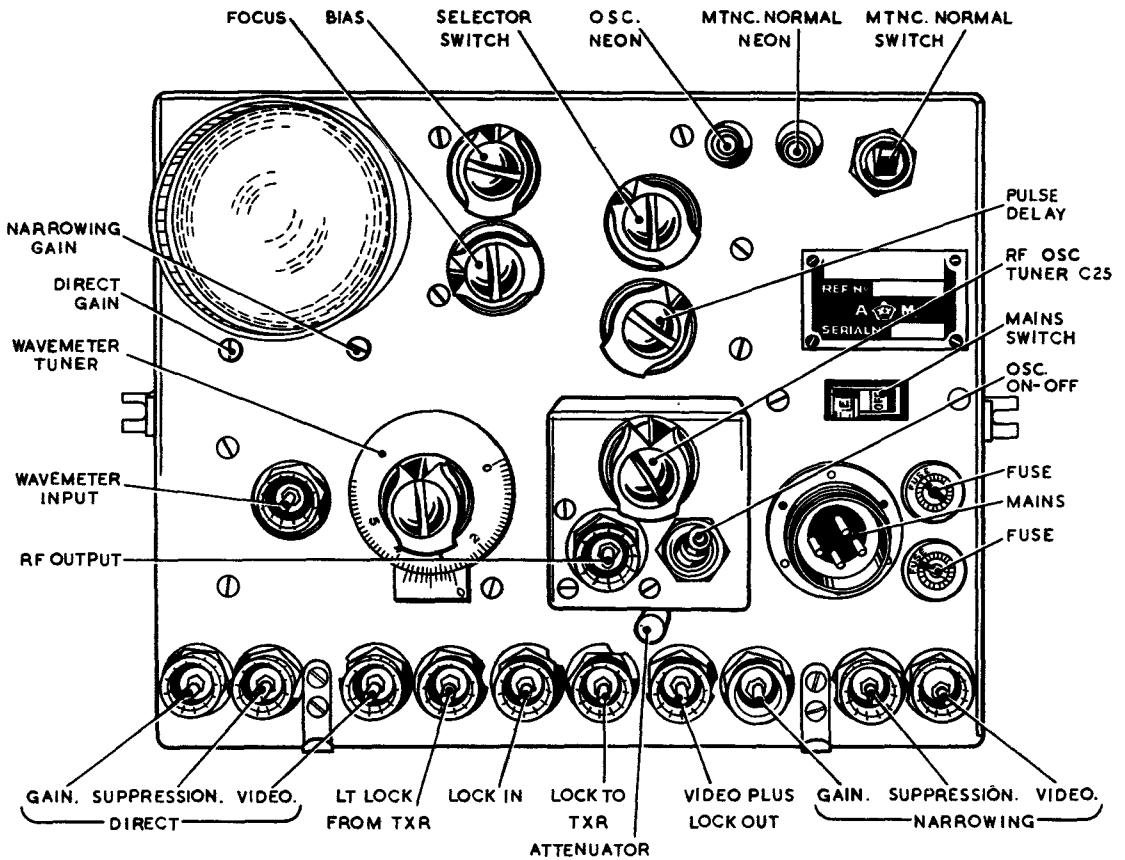

Fig. 22. Mixer unit Type I3 : front panel
**Setting-up mixer unit Type 13 (fig. 22 and 23)**